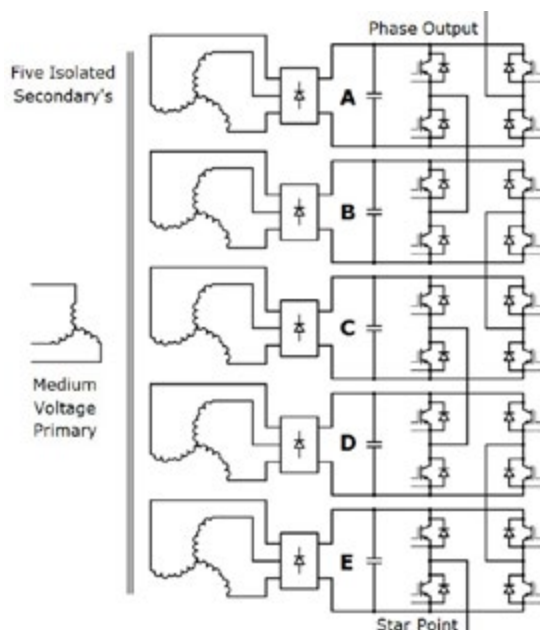

Figure 1: Overall schematic of one phase of a 5 cell per phase CHB converter.
For Medium Voltage Drives (MVD's), there are several competing technologies: three level Neutral Point Clamp (NPC) type 1 using high voltage power modules (1), current source designs using reverse blocking semiconductors (2), five level T type (3), and Modular Multi-Level (M2L) (4), to name some of the more common types available today in the market. The history of the CHB topology is that it was invented in the early 1970's but first commercially brought to the market by Robicon USA (now owned by Siemens) in the early 1980's. In recent years numerous companies have introduced CHB based MVD's. The overall topology of one phase is shown in Figure 1 and a more detailed schematic for an individual cell in Figure 2.
The key to the cascade topology is a multiphase isolation transformer, see Figure 1, here shown with a medium voltage primary and 5 isolated secondary windings, in this example each rated at 750 Vac. Each transformer secondary powers a single cell and the 5 cells are "daisy chained" together in series to make a complete phase. Two other phases are used to build a complete three phase drive with a total of 15 isolated secondary windings. See Figure 4.